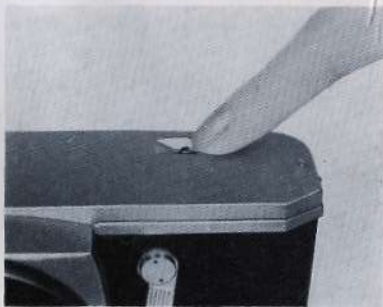

Fig. 22
- (2) Press in all the way rewind release button on camera bottom (Fig. 22).
- (3) Turn rewind crank lever clockwise. Tension is felt as the film is rewound from the take-up spool into the cassette. Stop rewinding when tension is released. Open camera-back (by pulling out rewind knob all the way) and remove the film.